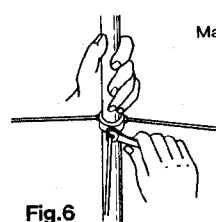

Fig.6
- 6) Attach three radial elements with the wrench as shown in the Fig.6.